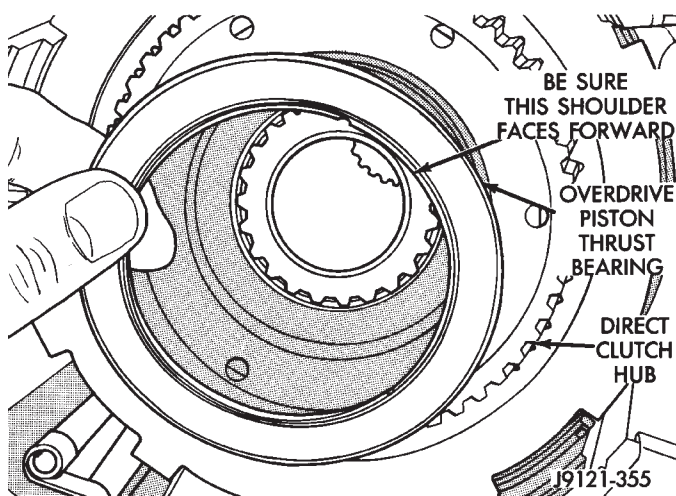
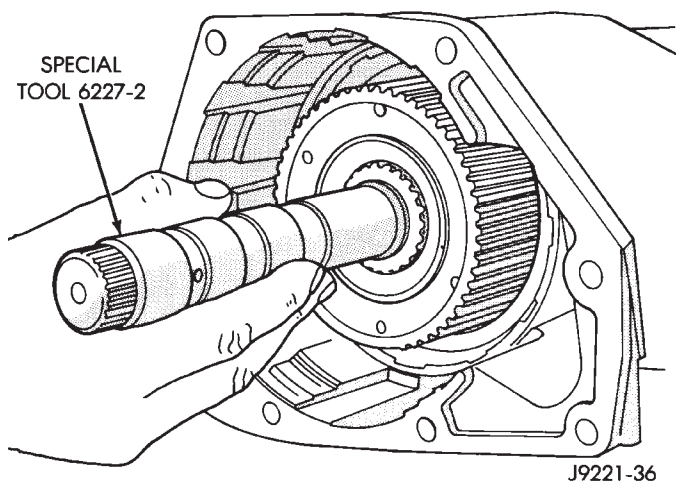

Fig. 167 Installing Overdrive Piston Thrust Bearing
Fig. 168 Checking Alignment Of Overdrive Planetary Gear And Overrunning Clutch Splines
(42) Install overdrive piston thrust bearing in direct clutch hub (Fig. 167). Use liberal quantity of petroleum jelly to hold thrust bearing in place. **Note that one side of bearing has dark coated surface. This surface faces overdrive piston. Also be sure raised shoulder on inside diameter of bearing faces forward as well.**
(43) Apply small amount of petroleum jelly to pilot hub of intermediate shaft.
(44) Verify alignment of splines in overdrive unit planetary gear and overrunning clutch. Be sure Alignment Tool 6227-2 is still fully seated (Fig. 168). **If planetary gear and overrunning clutch splines become misaligned, overdrive unit cannot be fully installed on intermediate shaft. Overdrive unit may have to be disassembled in order to realign splines.**
(45) Carefully withdraw alignment tool from overdrive unit.